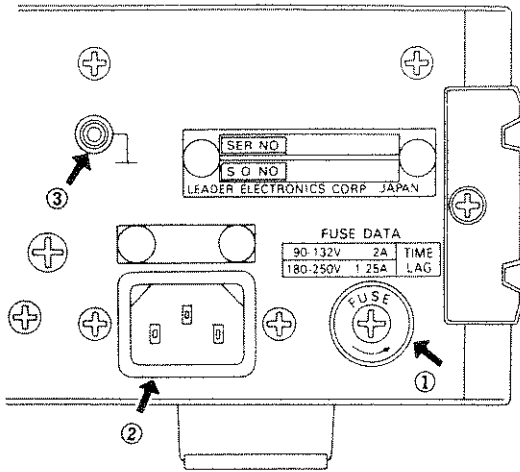

Figure 4.1
4.1 Power Supply (See Figure 4.1 and 4.2)
- ① Use specified fuse as designated on the rear panel when replace it.